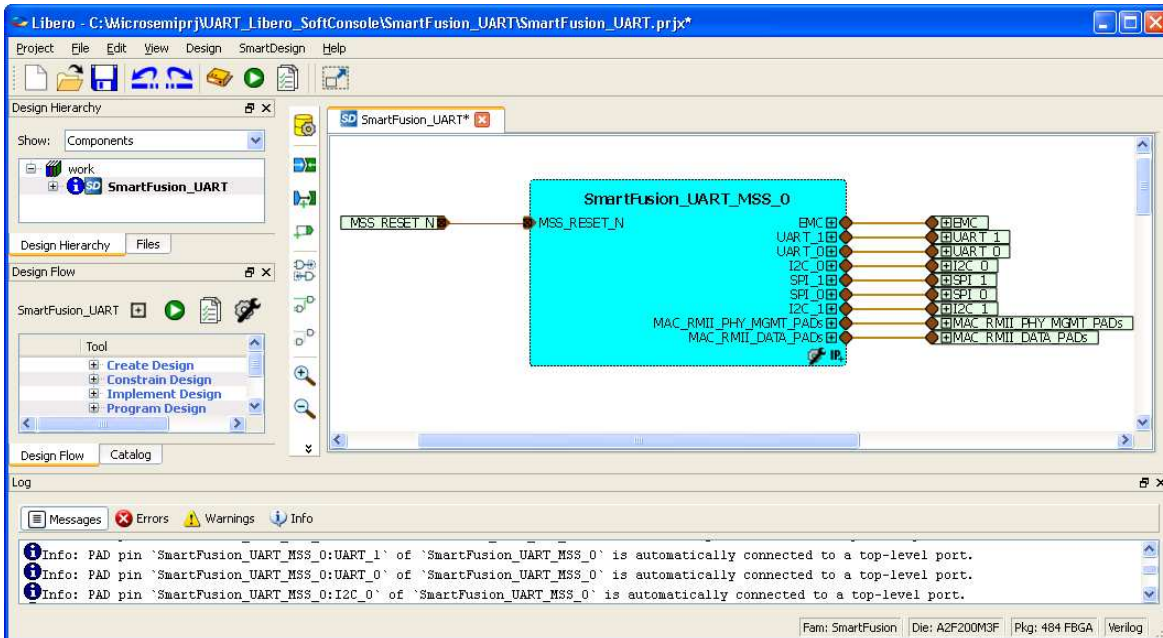

Figure 4 · The Libero SoC Window After Completing New Project Wizard
- The project is created and the Libero SoC window appears, as shown in Figure 4 . The SmartDesign “SmartFusion_UART” is created with instantiation of the MSS component.